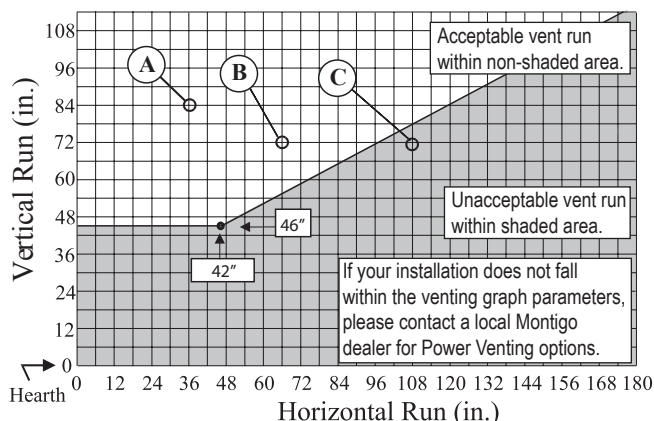

Figure 13. H*42DF* Top Vent Venting Graph for wall mounted terminations.
- Once the proposed venting layout has been determined refer to Figure 13 or 15 to ensure the layout is acceptable.
- Venting runs *must* fall within the limits set by the venting graph, see Figure 13.
Measure the vertical height from the fireplace hearth to the centre of the termination and the horizontal run from the fireplace flue collar to the wall flange of the termination. Plot on the Venting Graph Figure 13 with an 'X'.
Figure 13a. Top Vented, wall mounted installation with one 90° bend. The vent run must comply with Venting Graph for Top vent, wall mounted terminations, Figure 13.